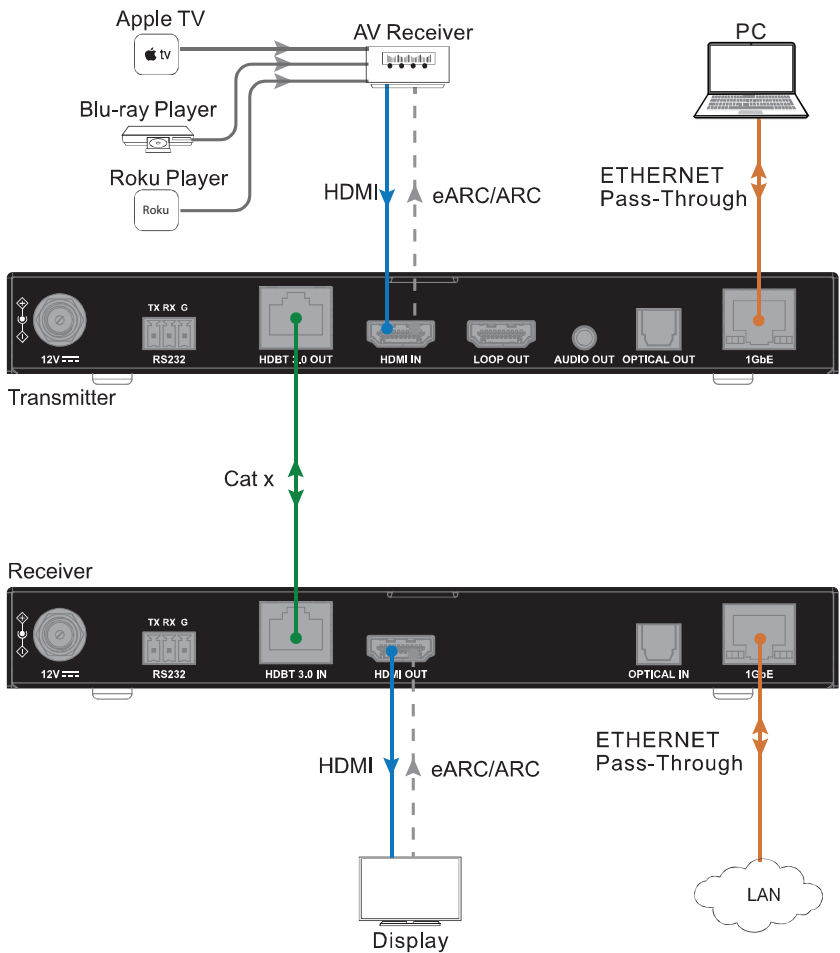

Figure 1. eARC/ARC Audio Return
6. The audio signal of TV through HDMI OUT port will be transmitted to the AV System connected to HDMI IN Port of transmitter (See Figure 1).
- Ethernet Pass-through: Connect 1GbE port of the transmitter/receiver to a PC/local area network, and connect 1GbE port of the receiver/transmitter to a local area network/PC, the PC can be connected to the local area network (See Figure 1).